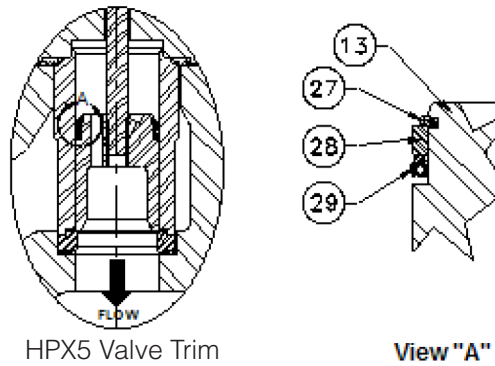

Figure 4- Mark HPX5 Trim
- 3.1. Install for flow-down applications (see Figure 4, view A), install the ring with the open side facing the seat ring end of the valve plug.